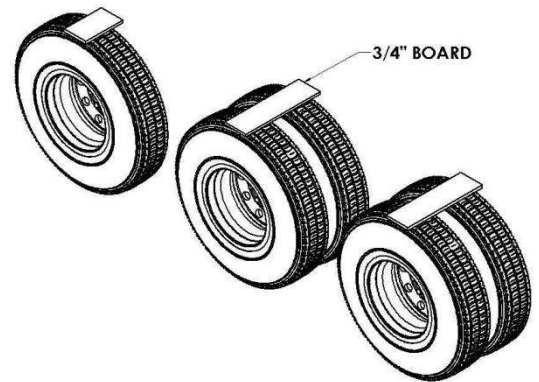

Figure 6
- a. For an air suspension system, place a  $\frac{3}{4}$ ” board on top of the tires after the air has been let out of the airbags (Figure 6). Place the fender on top of the board.